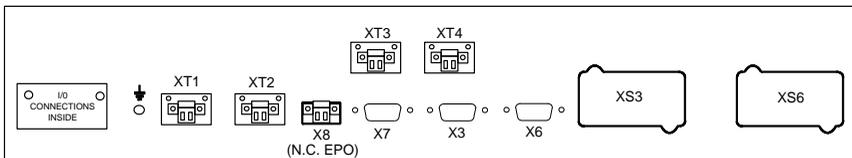

Figure 13 - Connectivity panel
In order to avoid electric shock hazard, that may be caused by backfeed of energy via the electronic static switch, an external disconnector must be installed in conformity with the Product Standard EN 62040-1 para. 5.1.4. The UPS generates a logic command at XT4 (see Fig. 13 on page 33) to ensure that the disconnector operates correctly.
- The terminals XT2.1 and XT2.2 on the UPS connectivity panel (see Fig. 13 on page 33 and “External Battery Switch status - (input - XT2)” on page 35) can be used to monitor the status of an external auxiliary battery switch (not supplied).
All of which are located on the Connectivity Panel (see Fig. 13).